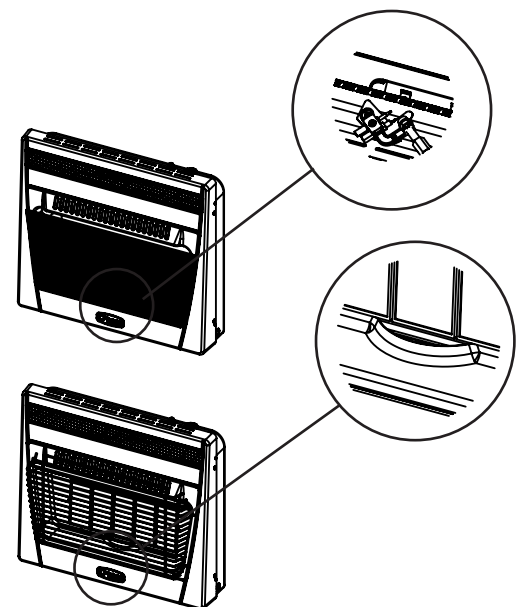

Fig. 18: Pilot Flame Location
6. With control knob depressed, push down on the ignitor button until the pilot lights. The pilot is visible centered below the burner, behind the front grill (see Fig. 18).
7. Keep control knob depressed for (30) seconds after pilot lights. Release control knob.
- If pilot goes out repeat steps 3 through 7. Wait (1) minute before attempting to light pilot again. If after several tries the pilot still goes out, turn the gas control knob clockwise  to the "OFF" position and call your service technician or gas supplier.